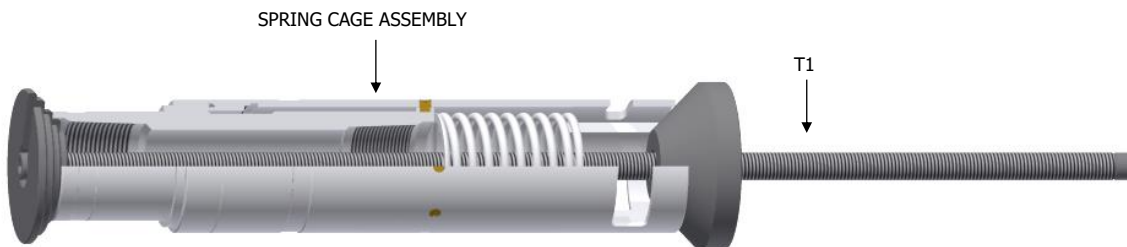

Fig. 2
J-1.16.1) Position assembly tool (T1) hand-tight against top sub (1) and spring cage (5) of spring cage assembly (Fig. 2).